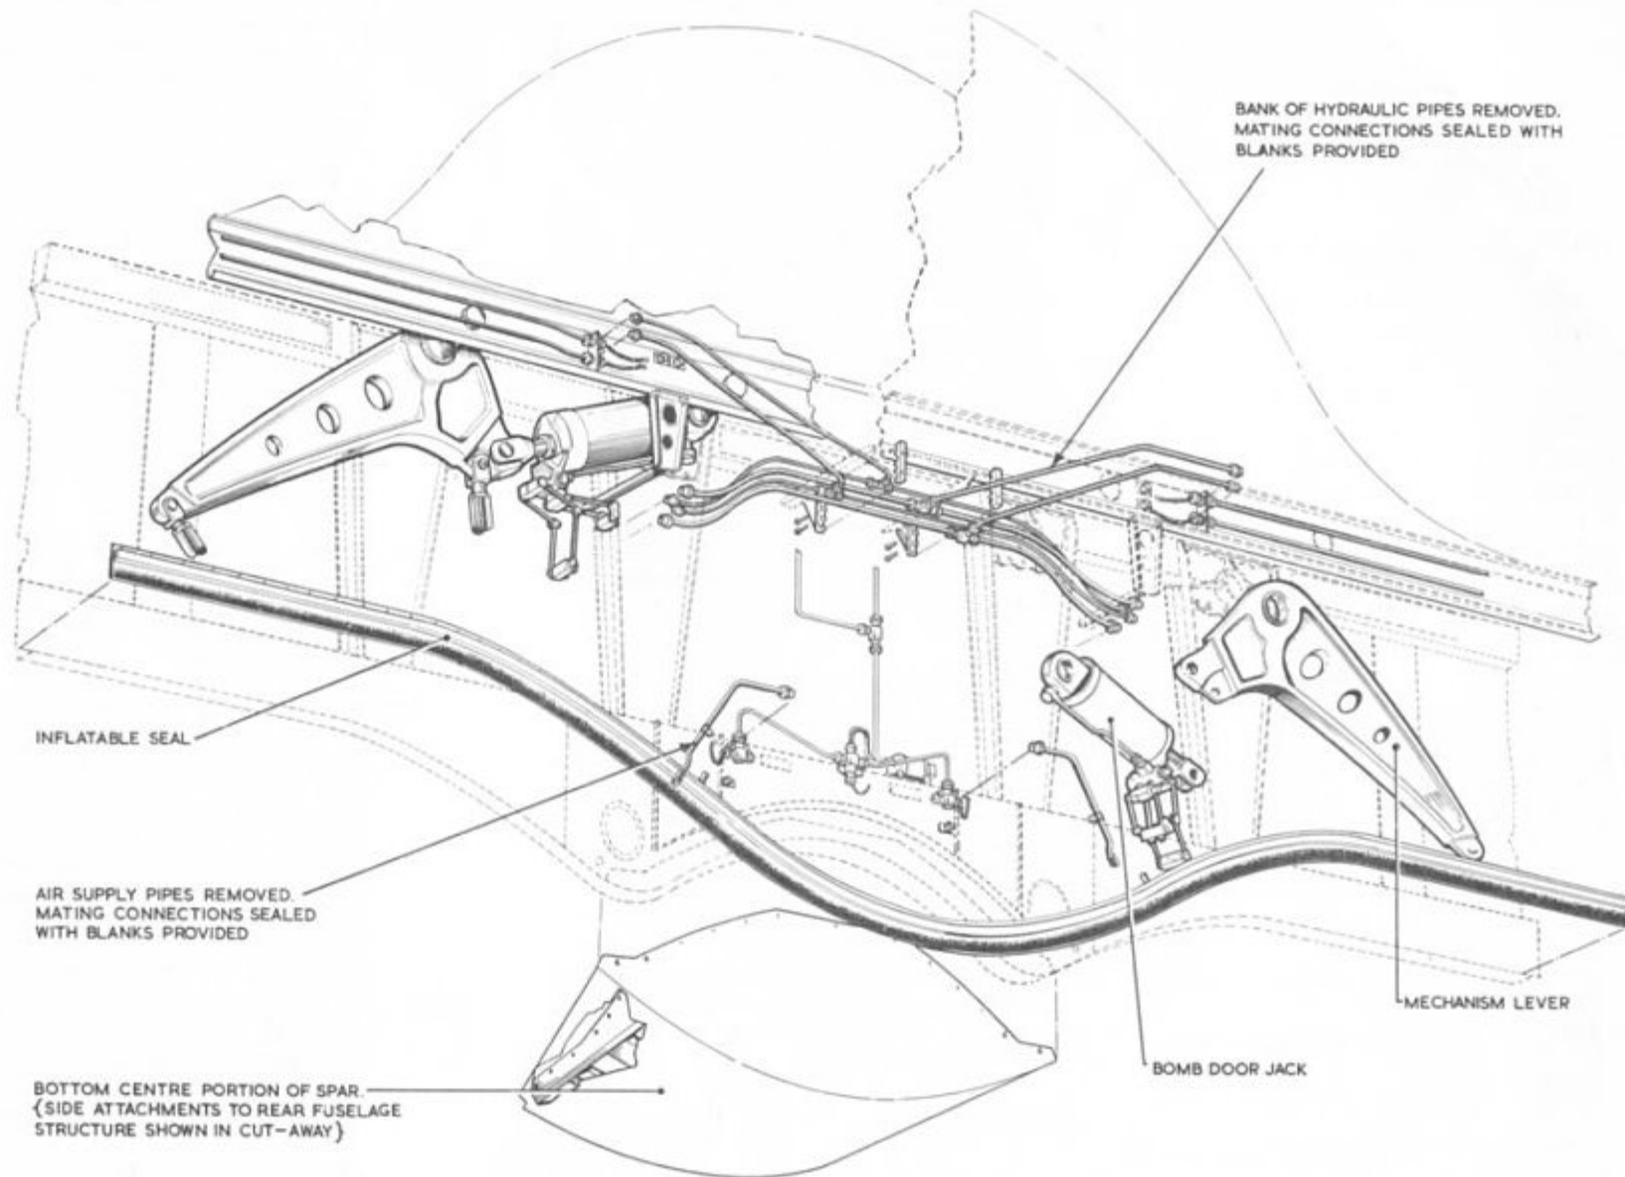

Fig. 6. Removal of components from rear spar
14. At the rear spar the bomb door seal and the bottom centre portion of the spar are removed as shown in fig.6 together with the access panel 8/D10981 from beneath the power compartment. To remove these components:-